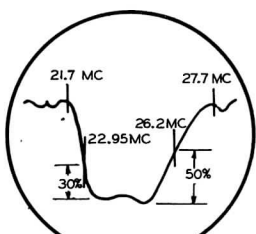

FIG. 1
- e) When adjusting the traps A5, A6, A7 A8 and A9, the marker generator output should be set at maximum, and the traps adjusted for minimum indication at the points shown on the response curve (Figure 1).